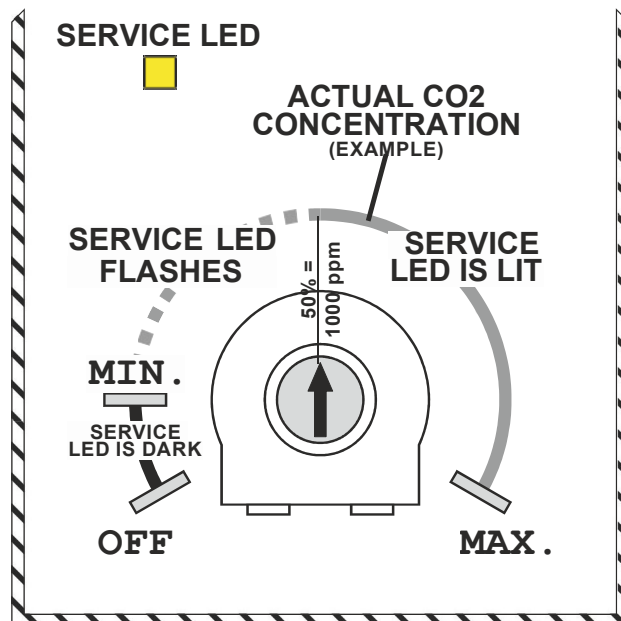
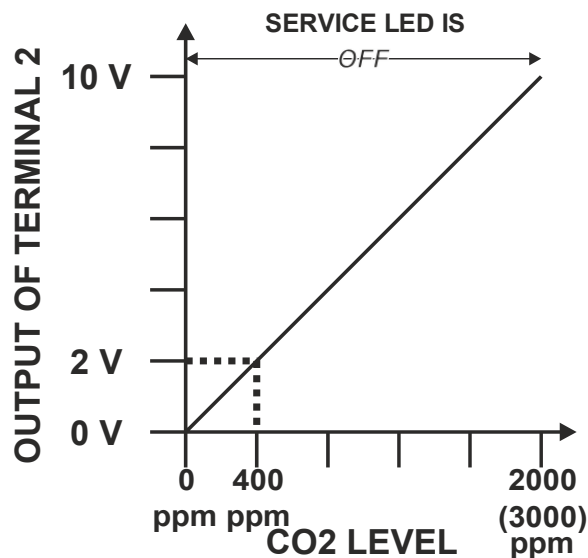
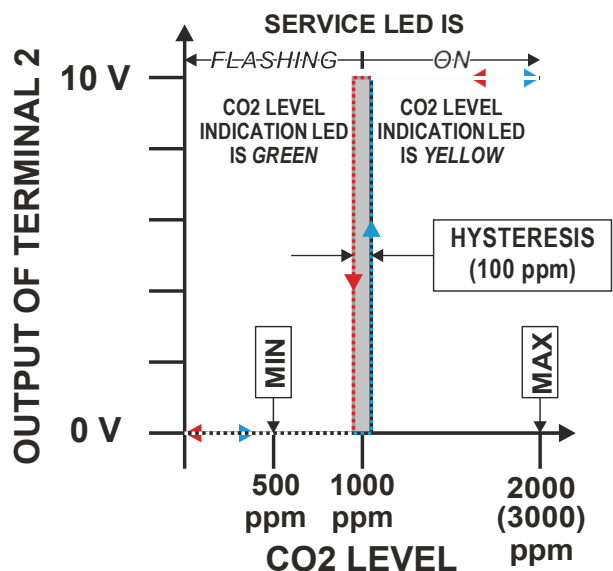

Fig. 12. Configuration potentiometer (e.g., set to 50% = 1000 ppm)
Fig. 13. Sensor output mode (analog)
Fig. 14. Relay output mode (digital)
- To select the "Sensor Output" mode (analog), set the configuration potentiometer to "OFF" (default setting) (see Fig. 12). See also Fig. 13.
- To select the "Relay Output" mode (digital), set the configuration potentiometer to between the "MIN." and "MAX." markers (see Fig. 12). The hysteresis value is permanently set to 100 ppm. See also Fig. 14.
In the "Sensor Output" mode (analog), the Service LED (see Fig. 12) is always dark.
In the "Relay Output" mode (digital), the Service LED (see Fig. 12) will either flash or be lit continuously, thus indicating the actual Threshold Level setting.